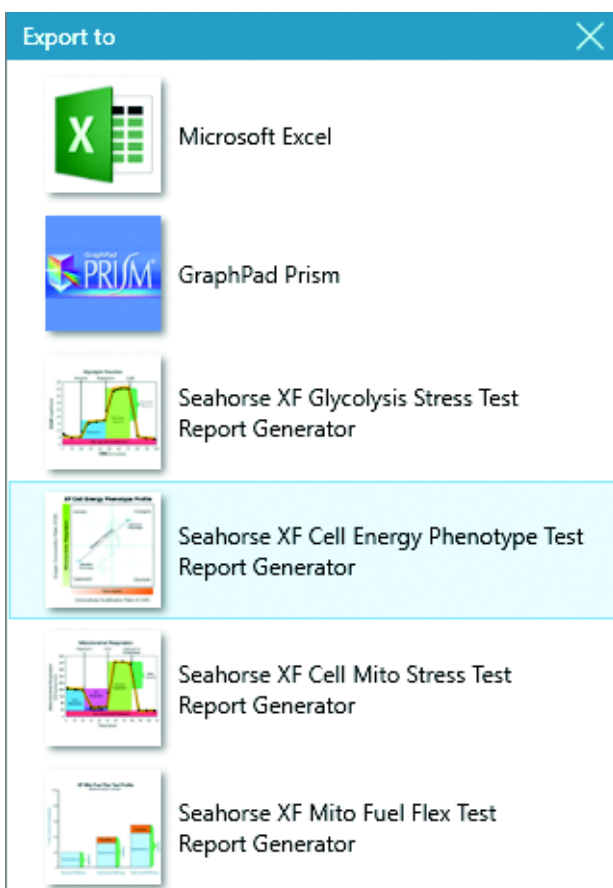

Figure 3 Wave 2.3 (Desktop and Controller) export options.
- 1 The recommended method to analyze assay result data in the Report Generator is using direct export from Wave 2.3 (Figure 3 on page 12).